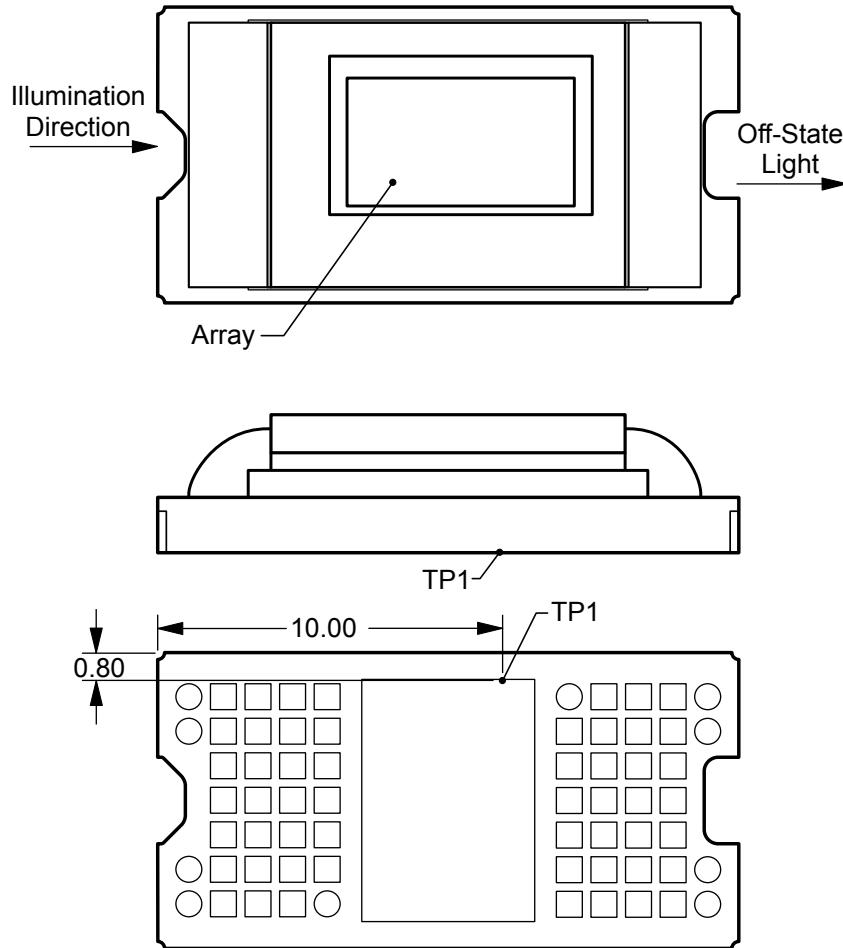

图 7-8. Thermocouple Location
Relationship between array temperature and the reference ceramic temperature (thermocouple location TP1 in 图 7-8) is provided by the following equations.
- $T_{CERAMIC}$  = measured ceramic temperature (TP1 location in 图 7-8) ( $^{\circ}$ C)